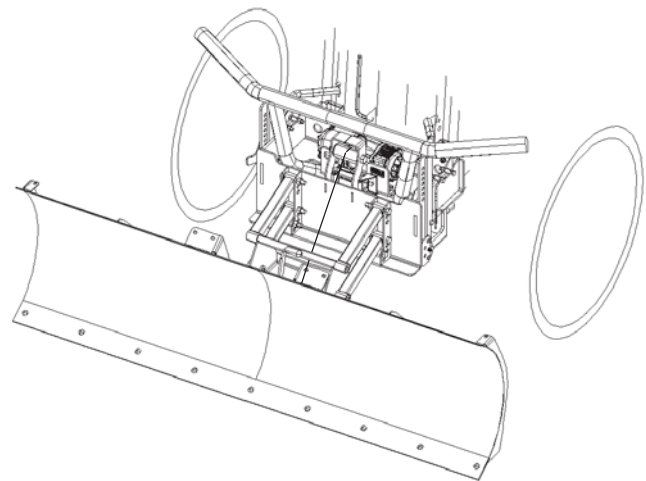

Figure 31 Plow attached to vehicle
7. Turn the ignition switch to ON, and operate the winch to lift and lower the plow. The plow is now ready for operation and should look like Figure 31.